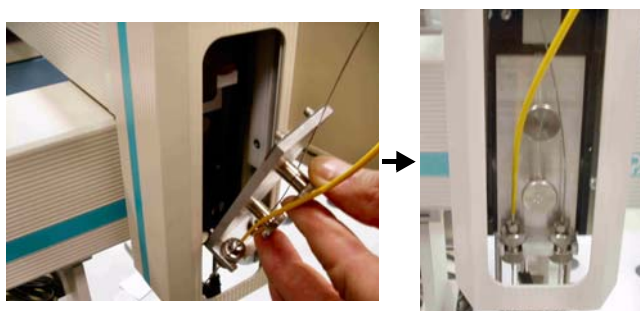

Figure 2-33. Inserting dual needle holder for CTC autosampler into AS
2. Insert the dual needle holder into the autosampler. See Figure 2-33.